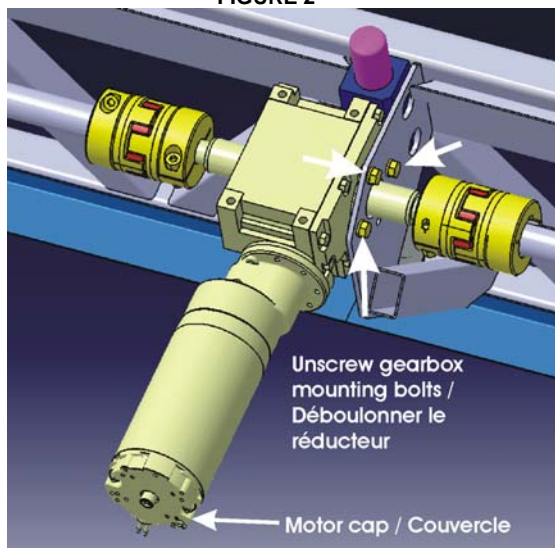

FIGURE 3
4. Unscrew the mounting bolts (3 or 4) securing the motor/gearbox assembly (figure 3).
6. Unscrew nuts and remove the motor cap (figure 3).